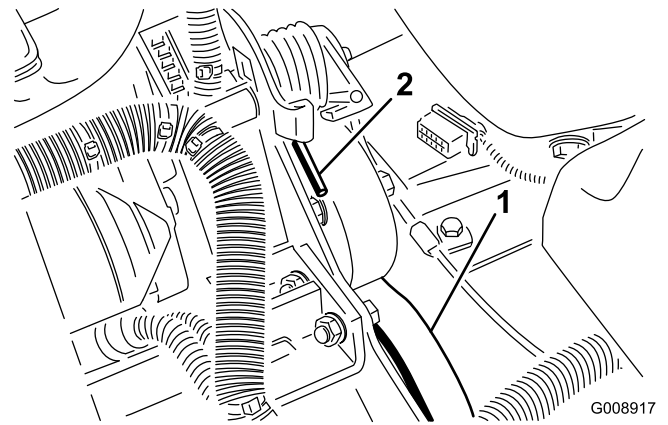

Figure 60
2. Push down and forward on the spring end (Figure 60) to unhook it from the bracket and release tension on the spring.